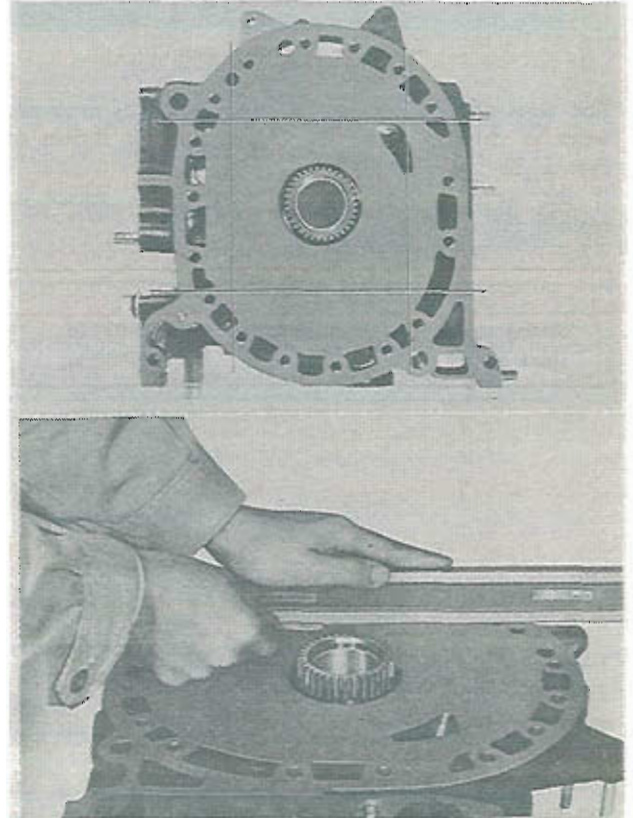

Fig. 1-27 Checking distortion
4. Check for housing distortion by placing a straight edge on the housing surface. Measure the clearance between the straight edge and the housing surface with a feeler gauge, as shown in Fig. 1-27. If the distortion exceeds **0.04 mm (0.0016 in)**, reface or replace the housing.